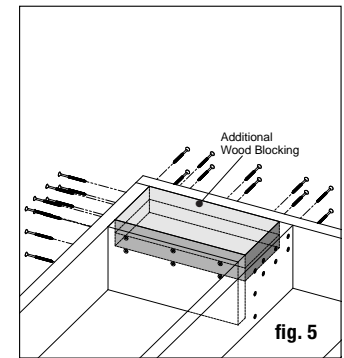

fig. 5
**Step 10** Install the bottom railing between the posts by sliding the brackets together. Attach the side of the bracket with the barrel bolt to secure in place (fig 5).
**Step 2 Installing Posts:** Install posts by attaching the aluminum base to the surface of the deck. Position the post so the fastener will go into the floor joist, and make sure the decking is firmly attached to the joist at the location of the posts. Proper structural blocking/ framing under the decking material is required when attaching the post to a wood frame deck because decking alone is not approved as structural framing (fig. 5).